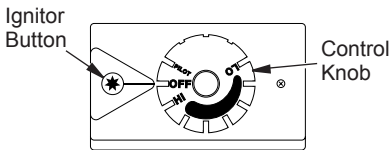

Figure 34 - Control Knob In The OFF Position
4. Wait five (5) minutes to clear out any gas. Then smell for gas, including near the floor. If you smell gas, STOP! Follow "B" in the safety information in column 1. If you don't smell gas, go to the next step.
5. Turn control knob counterclockwise  to the PILOT position. Press in control knob for five (5) seconds (see Figure 34, page 22).